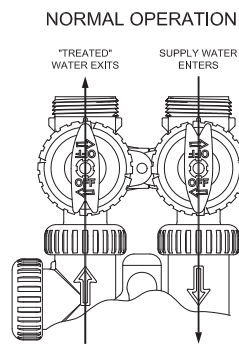

FIGURE 3
Open the outlet valve of the softener, or if using optional bypass place to **NORMAL OPERATION MODE (figure 3)**.
- 1. Normal Operation Position:** The inlet and outlet handles point in the direction of flow indicated by the engraved arrows on the control valve. Water flows through the control valve during normal operation and this position also allows the control valve to isolate the media bed during the regeneration cycle. (See Figure 3)